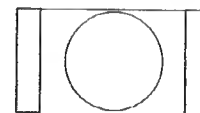

Fig. 37
- 4:3: for normal ratio 4:3 (See Fig. 37).